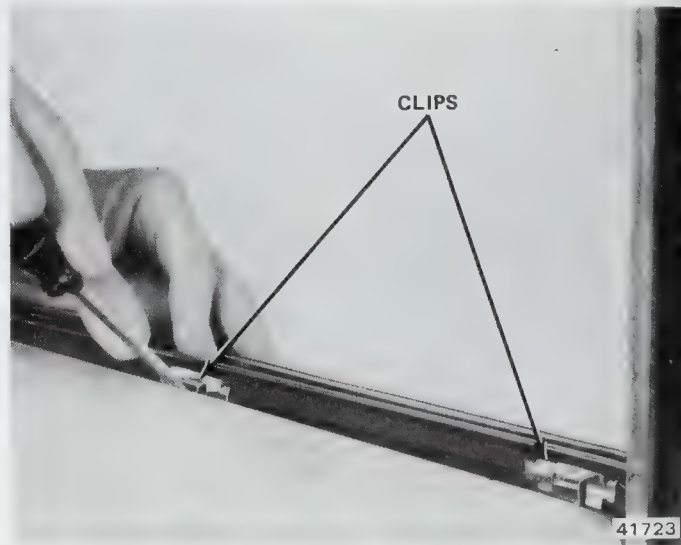

Fig. 3J-32 Clip Removal
(1) Pull weatherstrip from door flange at retaining clips.
(2) Insert screwdriver into retaining slots and slightly distort slots (fig. 3J-32).
(3) Lift and remove weatherstrip.